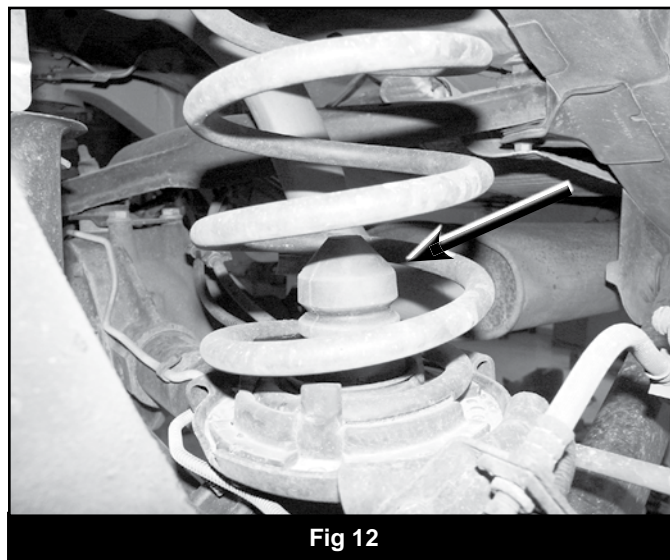

Fig 12
7. Using channel lock pliers, remove the rubber bump stop from the axle inside each of the rear coil springs (Fig 12). Allow the bump stop to rest free in the coil spring.